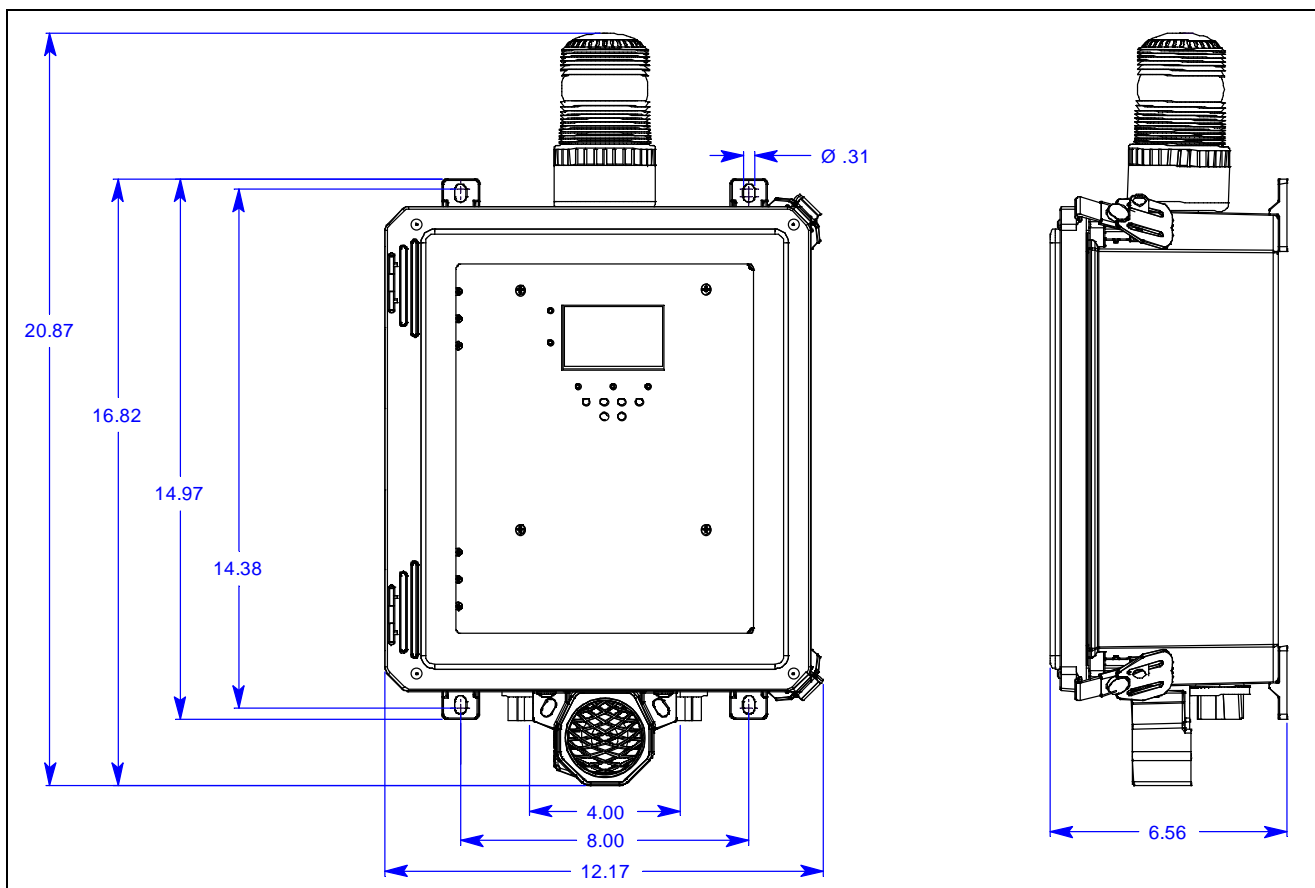

Figure 5: Outline and Mounting Dimensions
3. Prepare the selected mounting site as required to mount the AC-7400. It should be mounted at eye level (4 1/2 to 5 feet from the floor). Refer to Figure 5 for the outline and mounting dimensions.